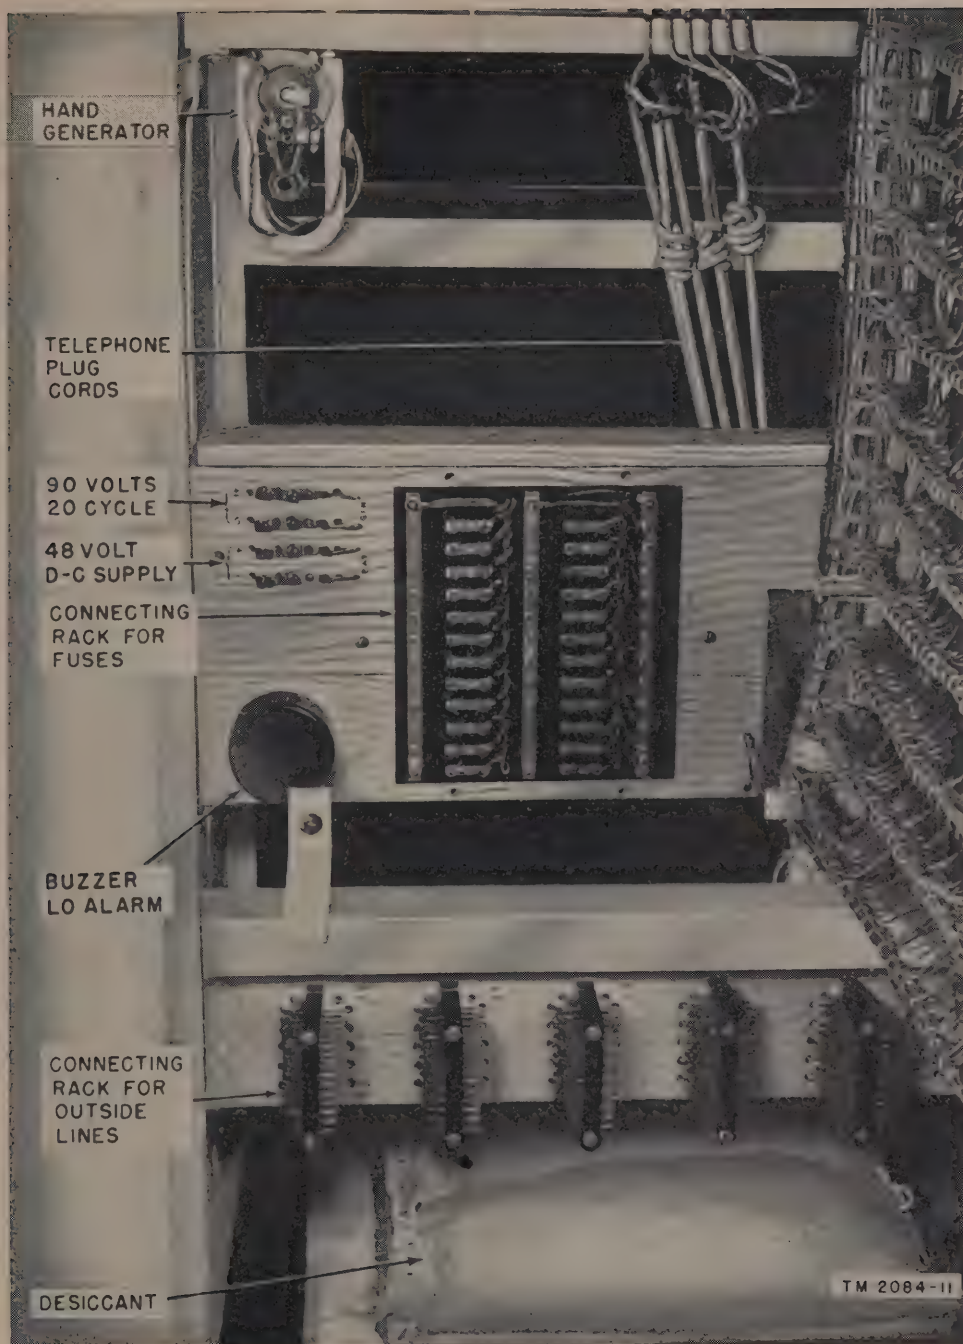

Figure 3. Telephone Switchboard SB-55/FTC, lower panel, interior view. (SB-55A/FTC has two heater units located on baseboard of switchboard.)
*a. ELECTRICAL CONNECTIONS.* Telephone Switchboard SB-55(\*)/FTC is completely wired internally when received. The only connections necessary are shown in figure 3 and listed as follows:
- (1) A d-c supply of 48 volts for transmission of talking currents may be supplied from any reliable commercial or army source. If these sources are not obtainable, use storage batteries supplying 48 volts dc. Connect the d-c supply to terminals on the connecting rack as shown in figure 3. If batteries are used, a rectifier is necessary for maintaining a steady d-c supply of 48 volts to the switchboard.
- (2) For ringing current, a reliable 110-volt, 60-cycle a-c (alternating-current) supply is necessary. Use a frequency converter in conjunction with the a-c supply, to change the 60-cycle current to 20 cycles. Connect the a-c supply to terminals marked GENERATOR on connecting rack as shown in figure 3.
- (3) On SB-55A/FTC, connect a 110-volt, 60-cycle a-c supply by means of BX cable fed through a knock-out in the heater units receptacle.
**c. CONNECTION TO LINES.** After the power and protective grounding connections are made, it is necessary to make connections between switchboard and emergency fire reporting lines. Figure 3 shows the connecting rack with numbered terminals for outside lines, 1 to 100.